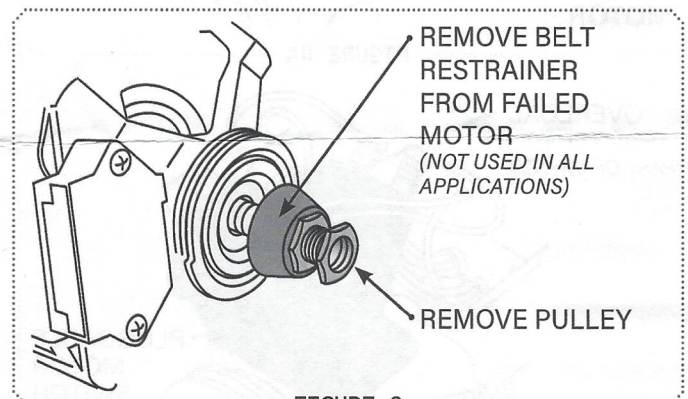

FIGURE 2
the other wrench in a counterclockwise direction to remove the pulley. See Figure 2
5. Remove belt restrainer from failed motor, if used. See Figure 2